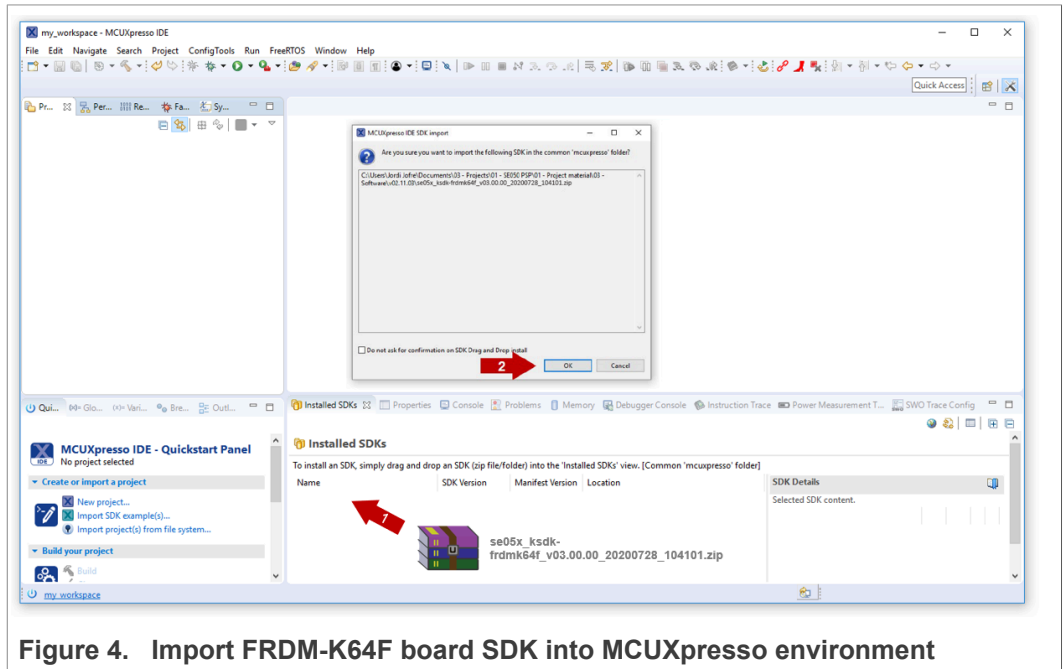

Figure 4. Import FRDM-K64F board SDK into MCUXpresso environment
After downloading the FRDM-K64F SDK, we need to install it into our MCUXpresso workspace. To install the SDK, (1) drag and drop the FRDM-K64F SDK zip file in the **Installed SDKs** section in the bottom part of the MCUXpresso IDE and (2) click **OK** as shown in Figure 4:
Note: If there is not an SE05x orange label on top of the board image, MCUXpresso may be recognizing a board SDK with a higher version number, downloaded from MCUXpresso SDK Builder website. To access the most up-to-date and complete list of EdgeLock SE05x project examples, first you need to uninstall the SDK currently installed, and then repeat the process indicated in Figure 4